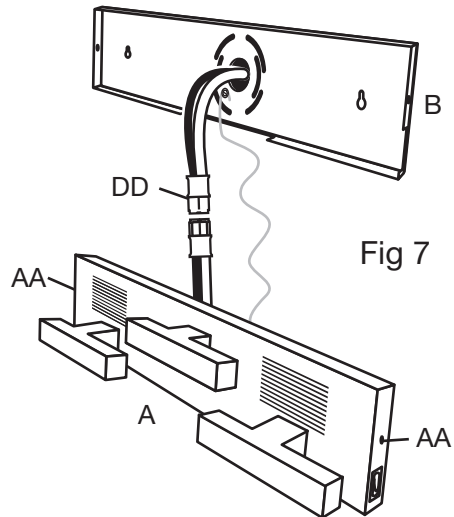
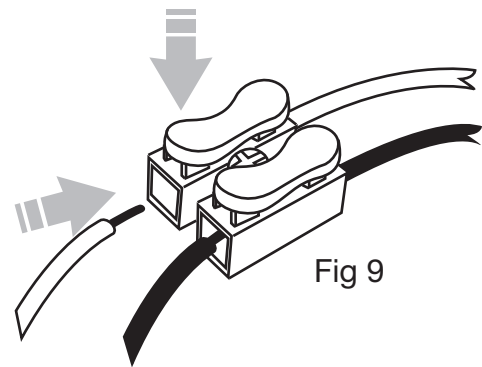

Fig 7
Fig 9
*Back side (A)*
1. Place Rocker Switch (F) in OFF position.
2. Remove Light Fixture (A) from Mounting Plate (B) by removing Mounting Plate Screws (AA) and disconnect Capstone Quick Connectors (DD) and ground wires (Fig 7).
4. Replace with Li-ion 11.1V 2000mAh rechargeable battery pack. Reattach the battery pack wires using the snap-in connector. Match the black and red wires with the fixture wires. Place the exposed wire into the connector and lock into place using the snap clamp (Fig 9).
5. Close Battery Compartment (H).
6. Reconnect Capstone Quick Connectors (DD) and ground wires (Fig 7).
7. Place Rocker Switch (F) in ON position to activate Night Light feature.
8. Align Light Fixture (A) in Mounting Plate (B) and secure with Mounting Plate Screws (AA).